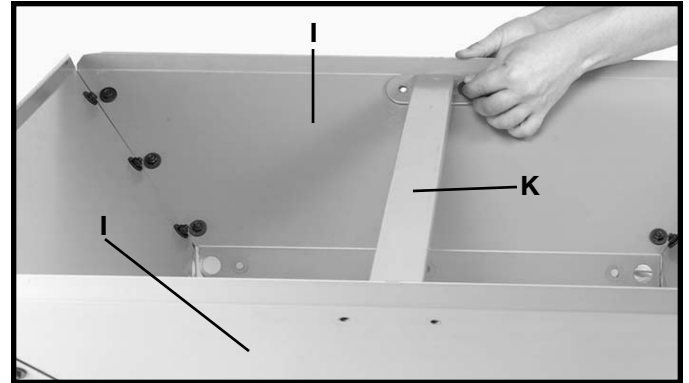

Fig. 16
5. Attach the board support (K) Fig. 16, to the 2 skew boards (I). Align the holes in the board support (K) Fig. 16 with the holes in the skew boards (I). Insert a 1/4-20x5/8" flange screw through the hole in the board support and the hole in the skew board, thread a 1/4-20 flange nut onto the flange screw and tighten securely. Repeat this process for the three remaining holes in the board support and the skew board.